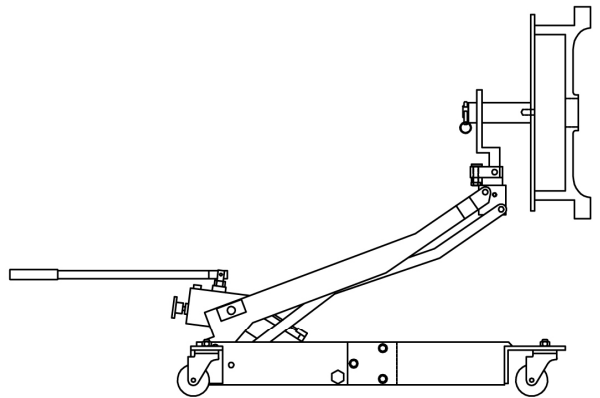

FIGURE 4
1. Install the CC2051 Flywheel Adapter onto the Clutch Caddy. Attach the flywheel as shown in Figure 4. Note: Flywheels for 15-1/2" clutches will require the use of the 1-1/2" long Spacer(s) between the flywheel and the Adapter.
2. Raise the Lifting Arm Assembly. Using the Holder Adjusting Bolt, align the flywheel with the crankshaft flange; install two (2) crankshaft bolts through the Access Slots in the Adapter Plate.